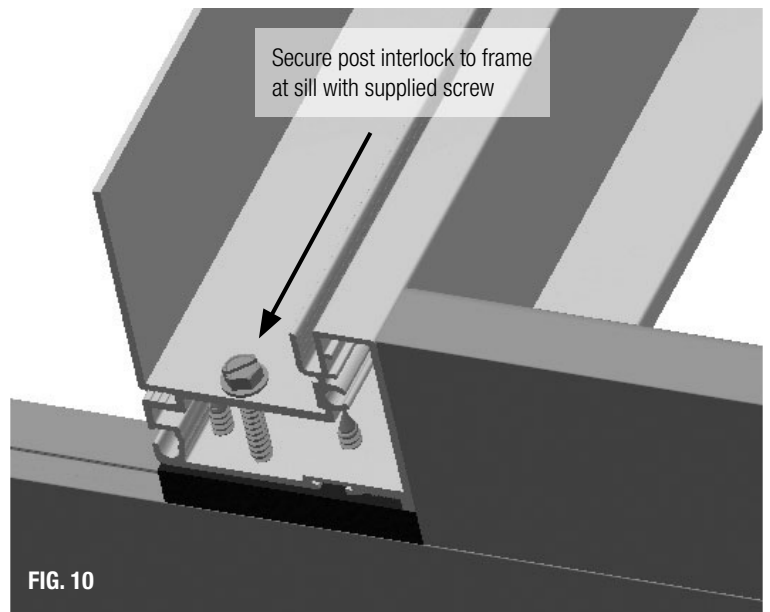

FIG. 10
- E) Align the pre-drilled hole on the post interlock (Fig. 9) to the holes on the exterior of the pocket side of the frame (the post interlock should line up flush with the frame nosing at the head). Secure the post interlock to the frame sill using the provided screw in the "Post Interlock" screw package. (Fig. 10) **Do not over-tighten screws. Over-tightening the screws will cause the post interlock to collapse at the ends.**